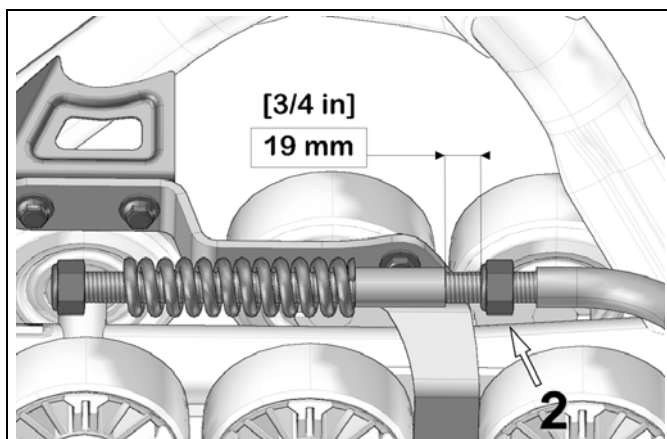

Figure 11
- Set the nut (2) to obtain a distance of 19 mm between nut and stabilizing arm guide as shown on Figure 11.